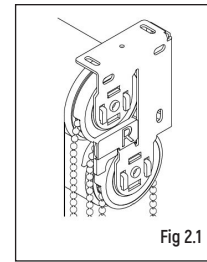

Fig 2.1
3. It is possible to have both chain drive controls on the same end, or alternate ends. The picture below shows when the chain diverter needs to be used to stop the chain from the top blind rubbing on the bottom blind (**Fig 2.1**).